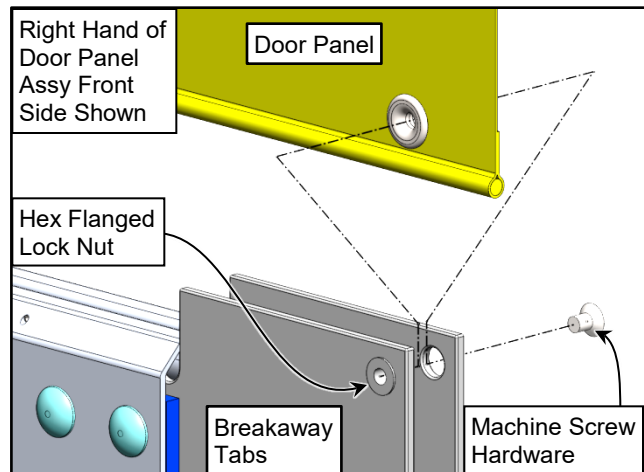
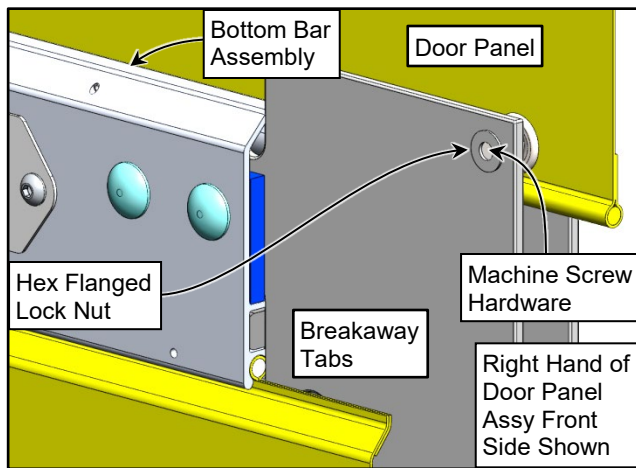

Figure 19
Figure 20
4. Check lower panel to ensure that it is fastened to the plastic breakaway tabs at each end of the bottom bar. Tighten or replace hardware, if required. If fabric is torn and cannot be re-bolted to the plastic tab, replace the panel. (See Figure 19 & Figure 20)